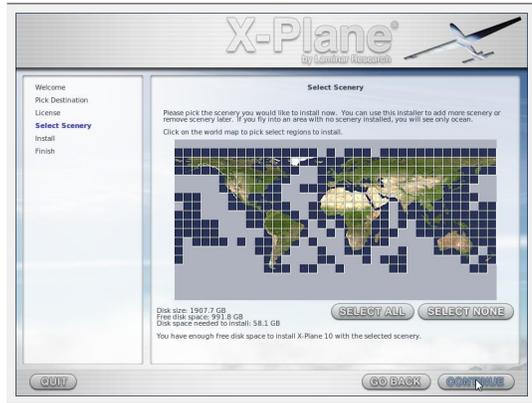

Figure 3.1: All scenery selected for installation after clicking “Select All” [Full size →]
7. Select the scenery you would like to install. Depending on the installer on your disc, either all of the world or none of it will be selected by default. An unselected tile will appear bleached in color, while a selected tile will have its full color (as all tiles do in Figure 3.1).